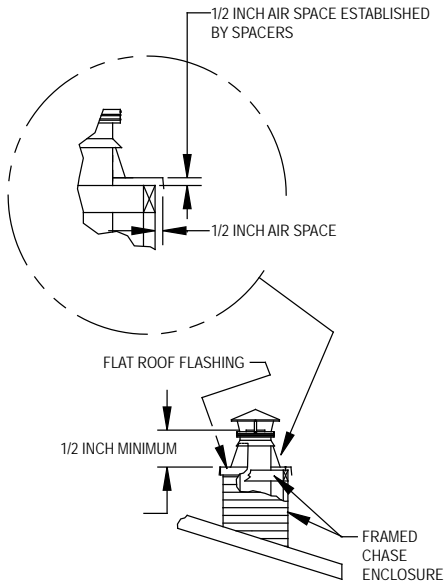

Figure 29
7. Install Chase Cover. If a chase enclosure has been constructed, installing the chase cover requires some special considerations. The chase must be ventilated at the top and a 1/2-inch air gap must be established between the cover, and the framed chase top. In addition, a 1/2-inch air gap should exist between the hole in the cover, and the Chimney Pipe Sections. Figure 29 displays in some detail, how these air gaps are established with locally fabricated spacers and covers. These are not furnished by Simpson Dura-Vent, but may be made from 28 gage or heavier sheet metal. Should the installer elect to use Flat Roof Flashing, (which is a stock item), the air spaces are still required. When installing the Storm Collar, do not push it down all the way to the cover, but allow an air space for flow between the Chimney Pipe and the hole in the cover.